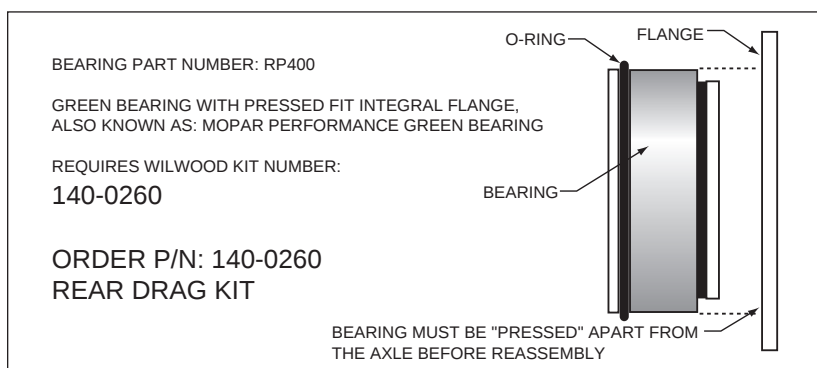

Figure 1. Press Fit Bearing Configuration
- It is important to verify which bearing you have. There are two types of “Green Bearings” being supplied by axle manufacturers, each one requires a specific Wilwood rear disc brake kit for proper installation. Your setup should look like Figure 1, otherwise you have the wrong.